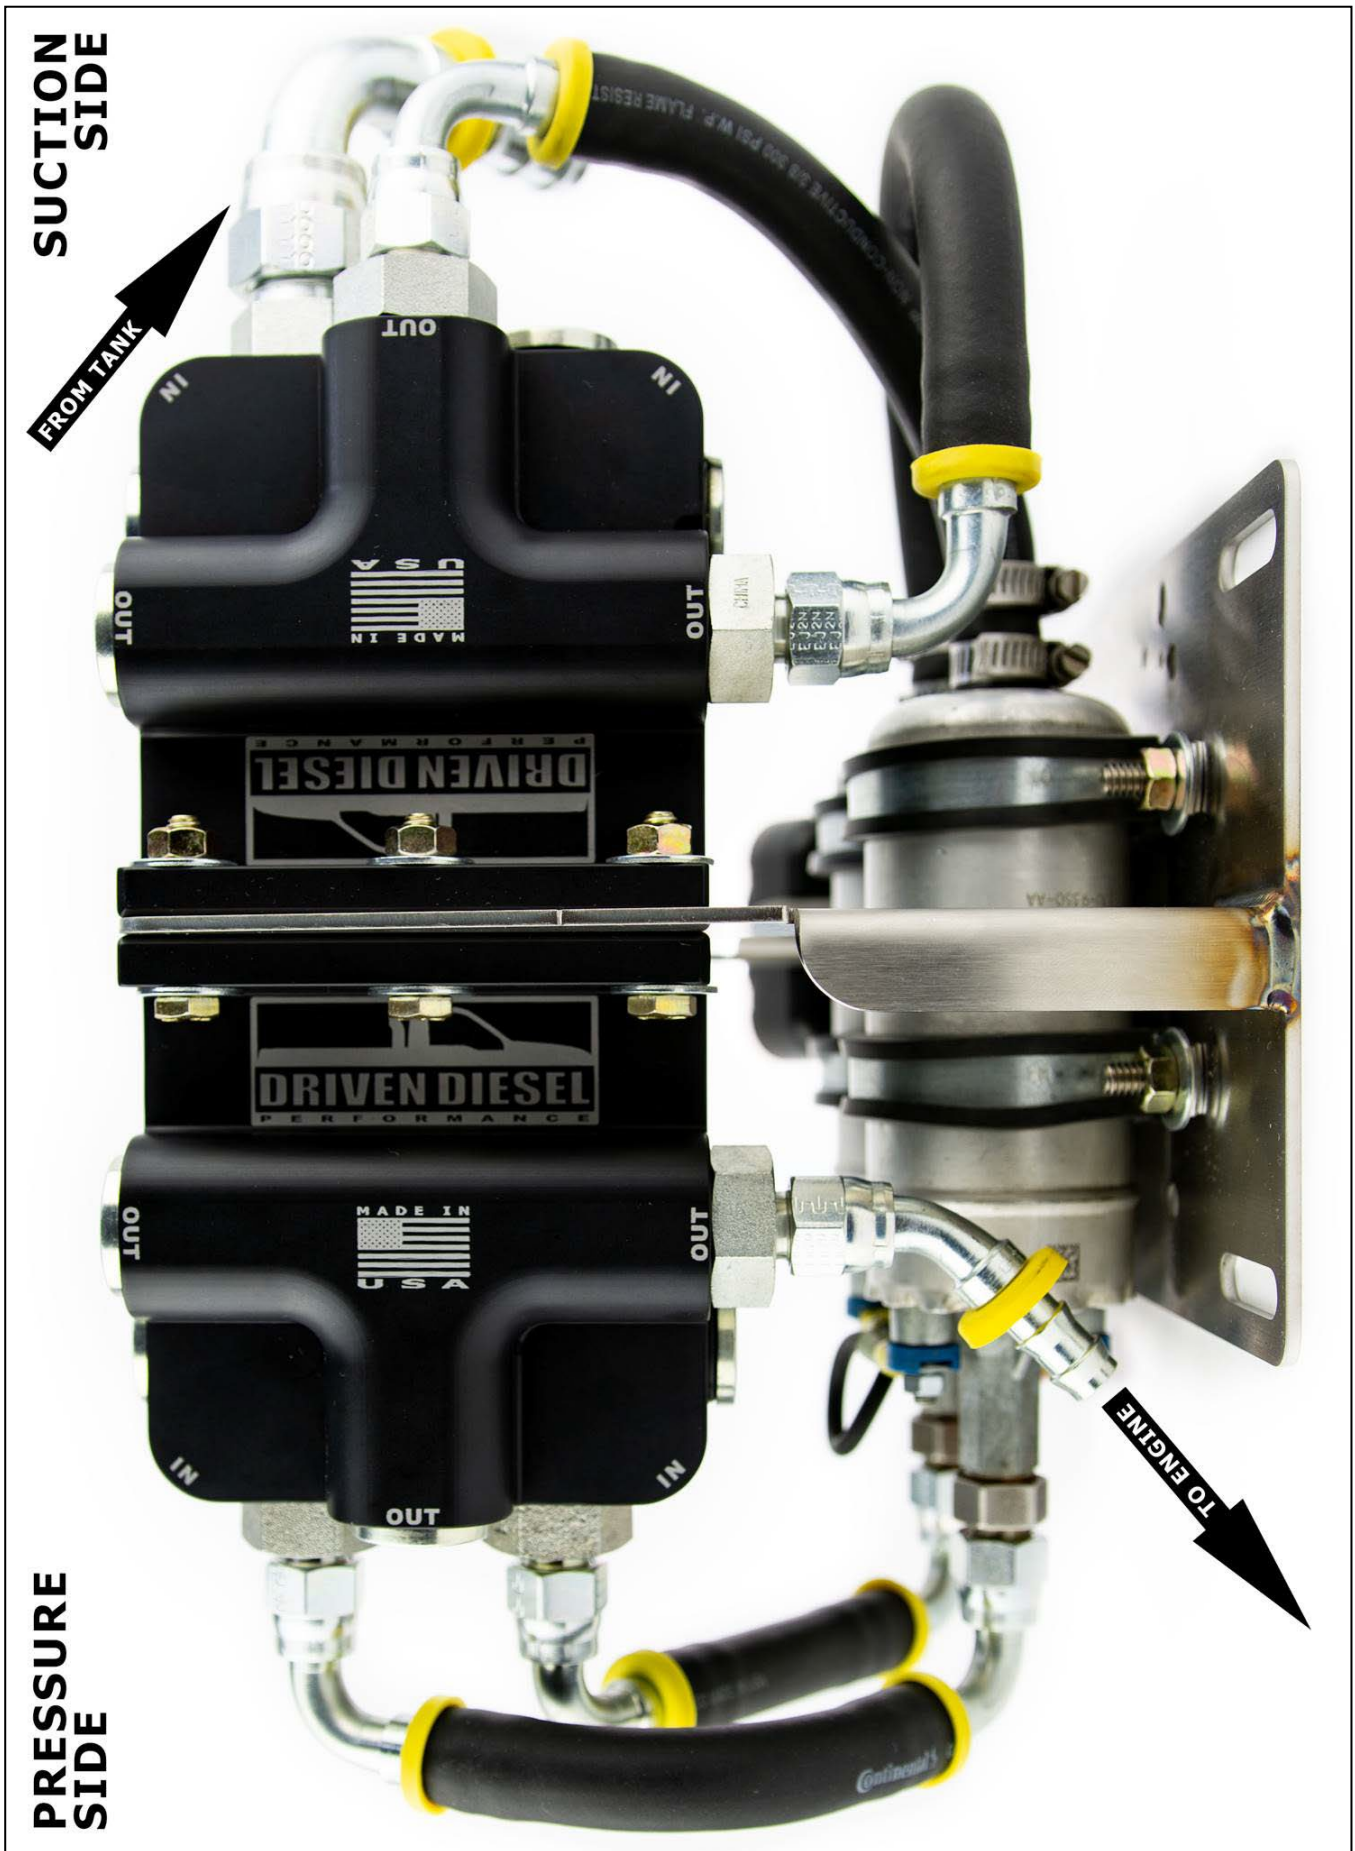

Figure 1 – Top View Of Pump/Filter Assembly – “Inside the Frame” Orientation
12. Repeat step 11 for the remaining PRE FILTER OUTLET to fuel pump inlet hose, using one more 06NC-06FJX90 3/8" 90° hose end and (2) more WGN-06SS hose clamps.
**YOUR ASSEMBLY SHOULD LOOK LIKE FIGURES 1 & 2.**
13. Take the assembled Pump/Filter Bracket & the black "L" Bracket under the truck. Using a large C-Clamp, secure the "L" Bracket to the bottom of the frame in your chosen location. You can now install the Pump/Filter Bracket over the (4) mounting studs on the "L" Bracket and check for clearance all the way around the assembly. Adjust the position of the "L" Bracket on the frame, as well as the position of the Pump/Filter Bracket on the "L" Bracket until you are happy with the chosen mounting location. This process allows you to easily move the assembly around on the frame by simply loosening and retightening the the C-Clamp.
14. Before you remove the C-Clamp, using the (3) slots on the bottom of the "L" bracket, mark the location for the (3) 3/8" holes that need to be drilled, ideally as close to the middle of the bottom of the frame as possible. Then, remove the C-Clamp and Bracket.
16. Once the holes are drilled, install the "L" Bracket to the frame using the (3) 3/8-16 Grade 8 Bolts, (6) 3/8" Grade 8 Flat Washers and (3) 3/8-16 Grade 8 Nylok Nuts. We prefer to install the bolts pointing up from the bottom and have the nuts on the top for a better look, but you **MUST** make sure that the bolts are not sticking up into anything they could damage over time (wiring harness, brake line, etc). Installing the bolts pointing down may be safer in some locations.
17. Install the Pump/Filter Bracket to the "L" Bracket using the (4) 5/16 Grade 8 Flat Washers and (4) 5/16-18 Grade 8 Nylok Nuts.